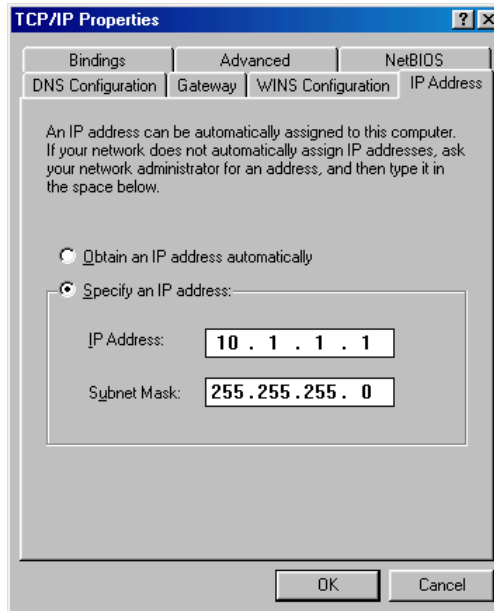

Figure 2. The TCP/IP Properties dialog box.
- Now the TCP/IP Properties dialog should be visible. As shown in Figure 2, enter the IP address "10.1.1.1" in the IP Address box and enter the subnet mask "255.255.255.0" in the Subnet Mask box.